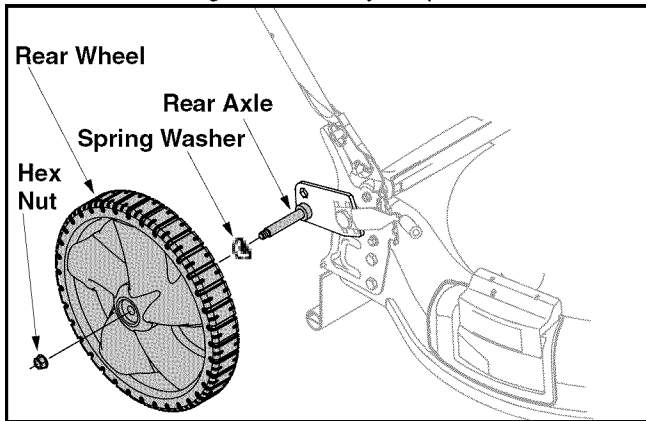

Figure 5
- Remove the hex flanged nut on the rear axle from each side and place the rear wheel on the axle, with the spring washer on the inside of the wheel. See Figure 5. Reinsert the flanged nut into the axle as shown, and tighten securely. Repeat on other side.